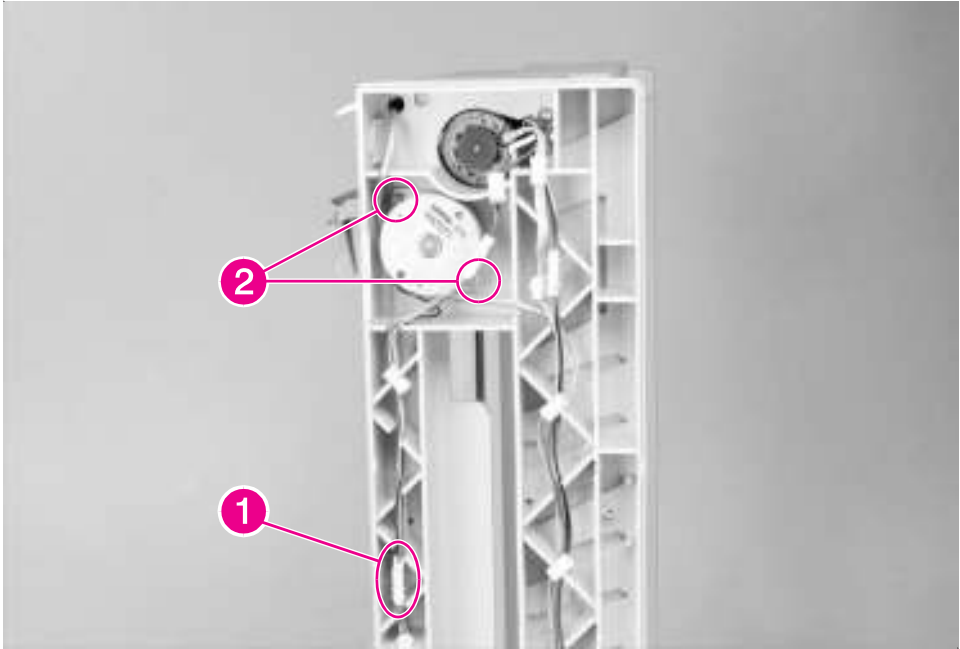

Figure 6-157 8-bin Mailbox Delivery Head Motor
- 2 Locate the cable that runs from the Delivery Head Motor down to the 8-bin Mailbox Controller PCA, and disconnect the cable from the connector in the middle of the 8-bin Mailbox frame (Figure 6-157, callout 1).